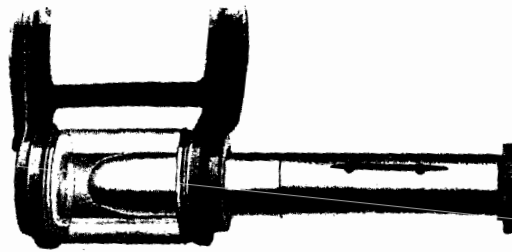

Fig. 108
- (1) Screw the pilot onto the spring bolt which is to be installed.
- (2) Slide the spacing washer and dust ring into place between the spring eye and shackle.
- (3) Push the pilot and bolt assembly through the shackle until it is in about the position shown in Fig. 108.
- (4) Slide the other spacing washer and dust ring into place and push the pilot through the spring and the other side of the shackle. Make sure that the slot in the head of the spring bolt is engaged with the lug on the side of the shackle and that the dust rings are expanded and fit snugly against the sides of the shackle.
- (5) Remove the pilot, assemble the spring bolt nut and draw up. Make certain that the cotter pin for this nut is replaced.